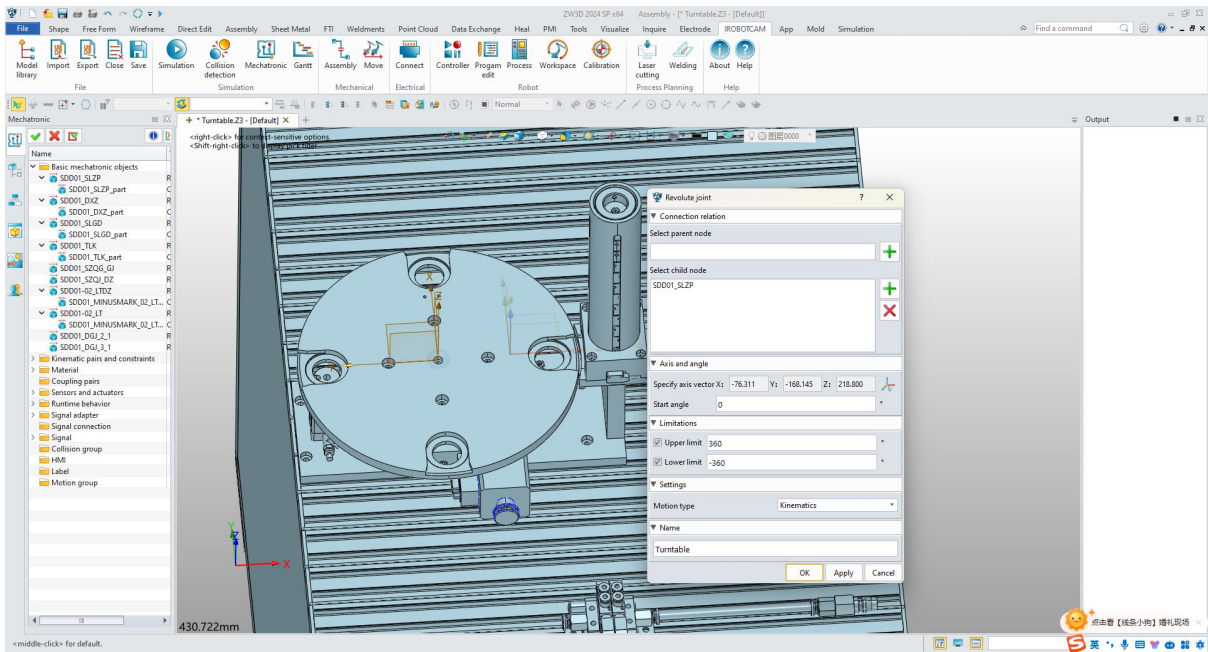

Figure 13-19: Revolute joint
- Create a revolute joint for the turntable base and specify the axis, start angle, limits, and motion type.(Figure 13-19)